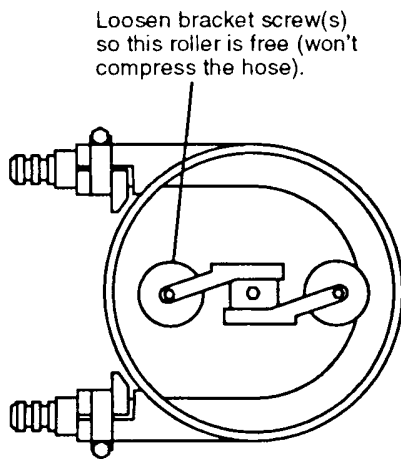

Fig. 5
2. Slightly loosen the screw(s) of the mounting bracket of one of the pressure rollers (so that the roller won't compress the hose when the pump is running). See Fig. 5.